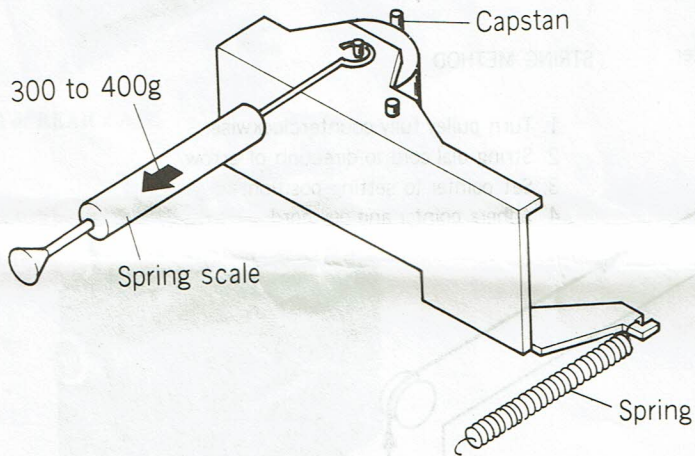

Fig. 10
- (1) Set the playback mode.
- (2) Hang a spring scale to pinch roller shaft.
- (3) Draw a spring scale to direction of arrow as shown in Fig. 10.